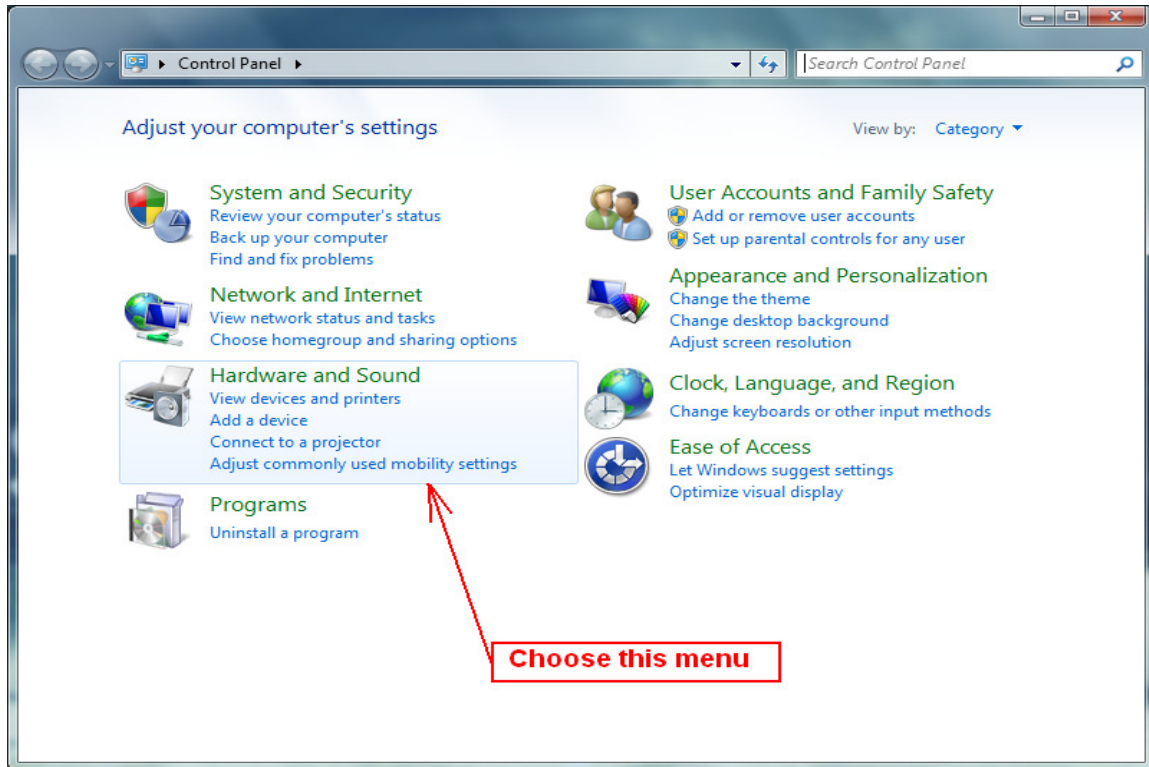

Figure 12 “Control Panel” window
- In “Control Panel” choose “Hardware and Sound” menu (see **Figure 12**).